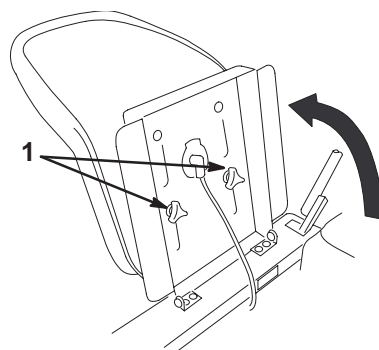

Figure 13
1. Raise the seat and loosen the adjustment knobs (Fig. 13).